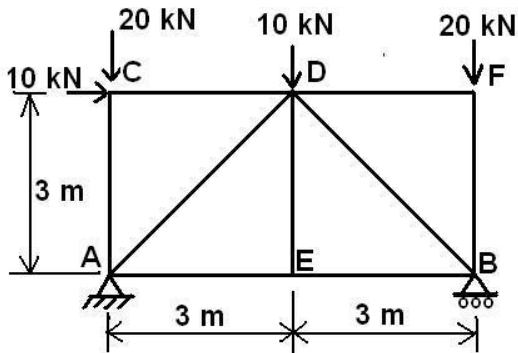

Fig. 3
- Q.3 (a)** Find horizontal deflection at point C for the truss shown in figure.3 Castigliano's first theorem. take $EI= 2.1 \times 10^5 \text{ N/mm}^2$, $A=500 \text{ mm}^2$. **08**